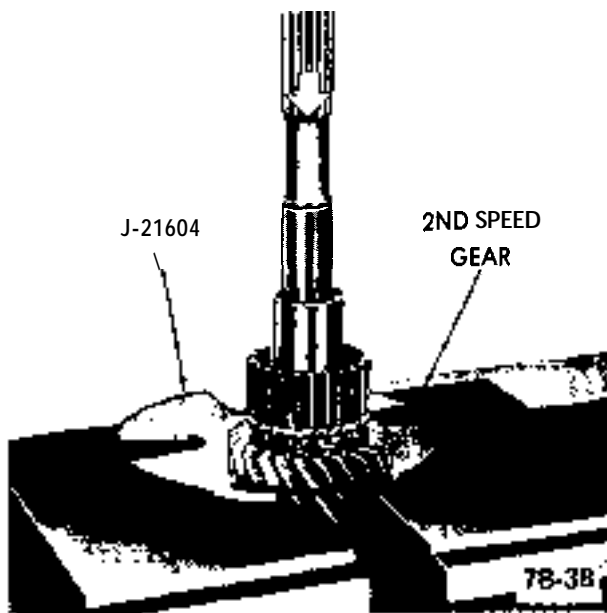

Figure 7B-38 Pressing Off Large Clutch Hub and Needle Bearing Inner Sleeve
8. With Special Tool J-21684, Press Plate, located below second speed gear, press out gear shifter sleeve carrier. See Figure 7B-39.